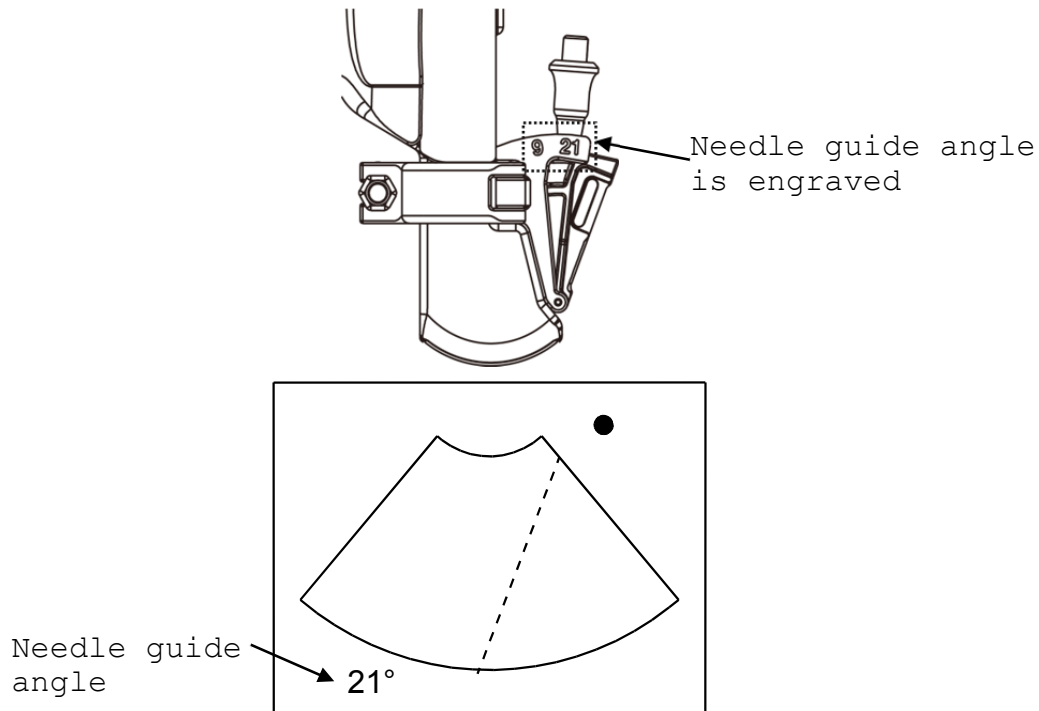

Fig. 3 Needle guide angle
- 3) Confirm that the needle guide angle corresponds to the angle indicated on the monitor. The needle guide angle is engraved on bracket. (See Fig. 3)